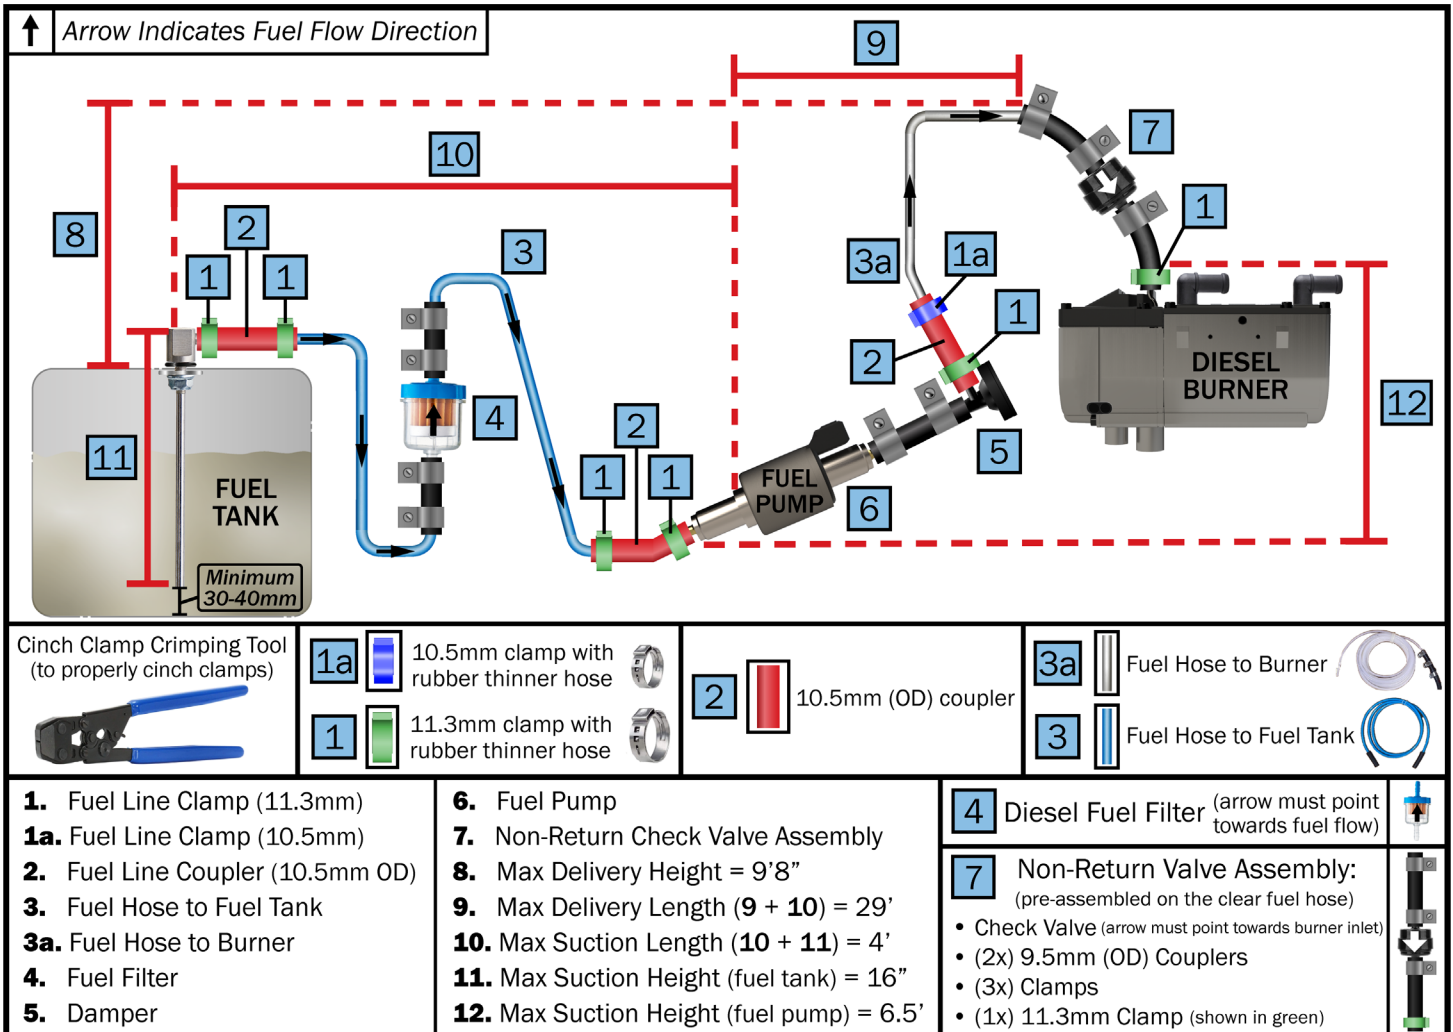
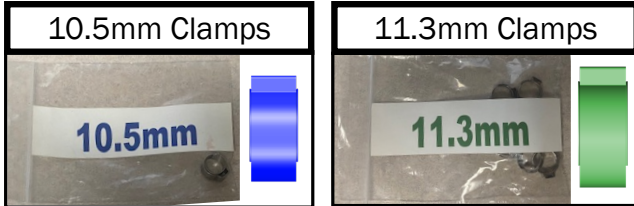

Figure 90
Figure 95
- Use the provided Ø4mm x 1mm (to heater - transparent) fuel hose and Ø2mm x 5mm (to fuel tank - blue) fuel line with the included couplers and clamps. See Figures 90 & 96
- The fuel hose should not be descending from the fuel pump to the burner - see Figure 90.
- The fuel line must be secured to the connections and couplers by hose clamps. See Figures 90 & 96.
- The fuel filter should be installed before the fuel inlet of the fuel pump. Make sure orientation and position of the filter is accurate with the flow of fuel. Reference Figure 90 & 94.
The two types of clamps used are shown below in the install bags. The clamps are color-coordinated on the bags and also the diagram in Figure 90 to avoid any confusion.
Make sure to confirm the correct couplers and clamps are placed properly according to the diagram in Figure 90. The clamps must be crimped properly using the cinch clamp crimping tool as shown above in Figure 95. Using soapy water or PAM on the fuel lines can assist in sliding the couplers on.